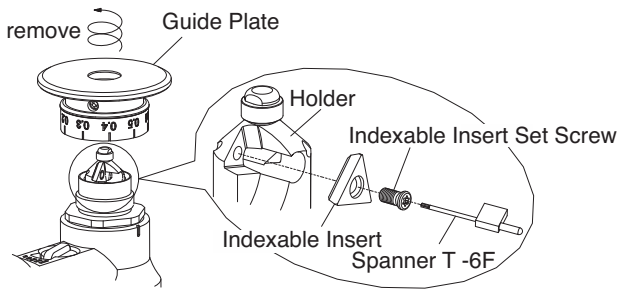

Fig.8
- b. Unscrew the Guide Plate and loosen the Indexable Insert Set Screw with the accessory Spanner T-6F (Fig.8)